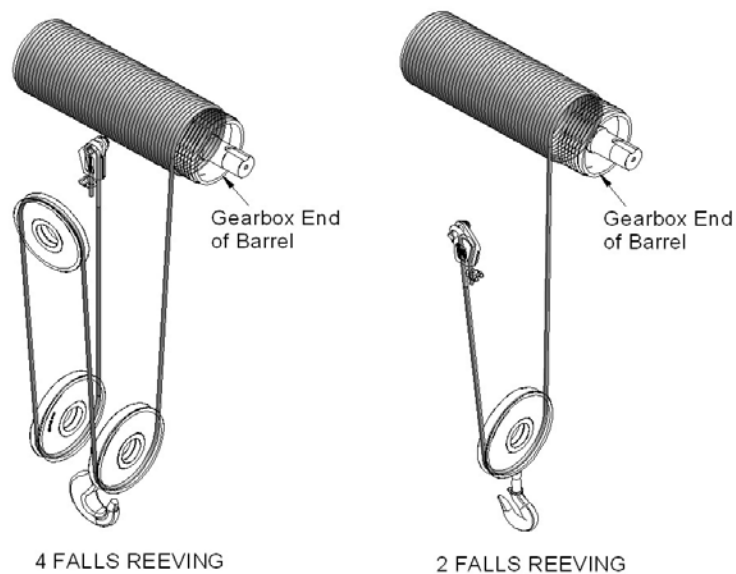
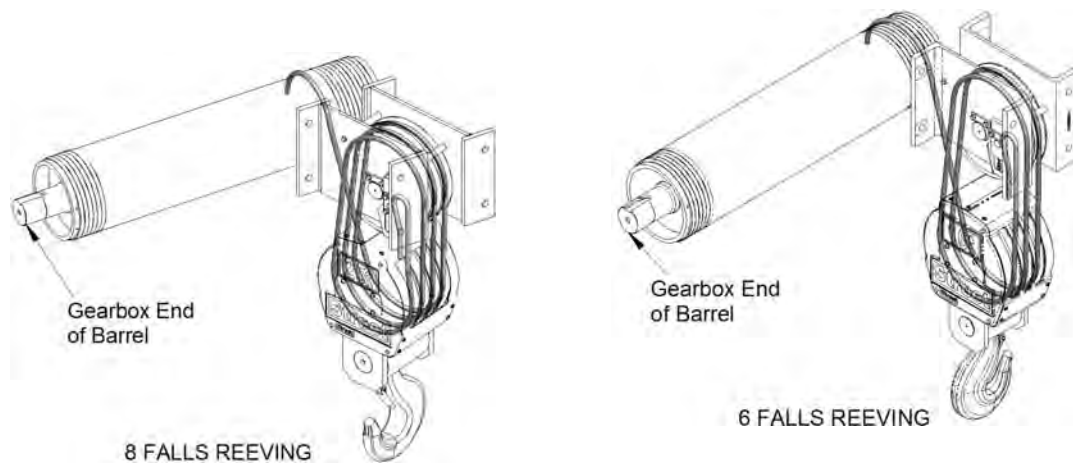

Figure 53 – Reeving Diagrams for ZX6 & ZX8 2&4 Fall Low Head & Crab Hoists
Figure 57 – Reeving Diagrams for Foot Mount Hoists: ZX086-FTM / ZX088-FTM
- Pass the free end of the rope through the sheave system as shown in Figure 53 to Figure 57. Ensure there are no obstructions which may cause twisting of the rope and monitor the rope carefully as it is being pulled through the sheave system. Unwind rope from the barrel as necessary but ensure tension is maintained on the rope as it leaves the barrel.